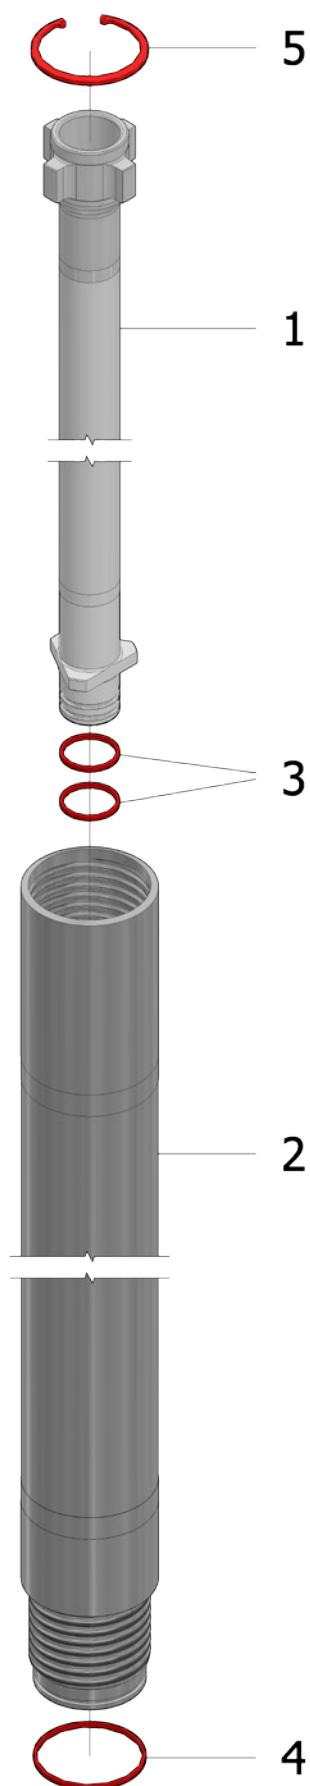

FIG. 3.14
D.114 C2H ROD: J-1C2H1000 (L=1000); J-1C2H2000 (L=2000); J-1C2H3000 (L=3000) (REF. FIG. 3.14)